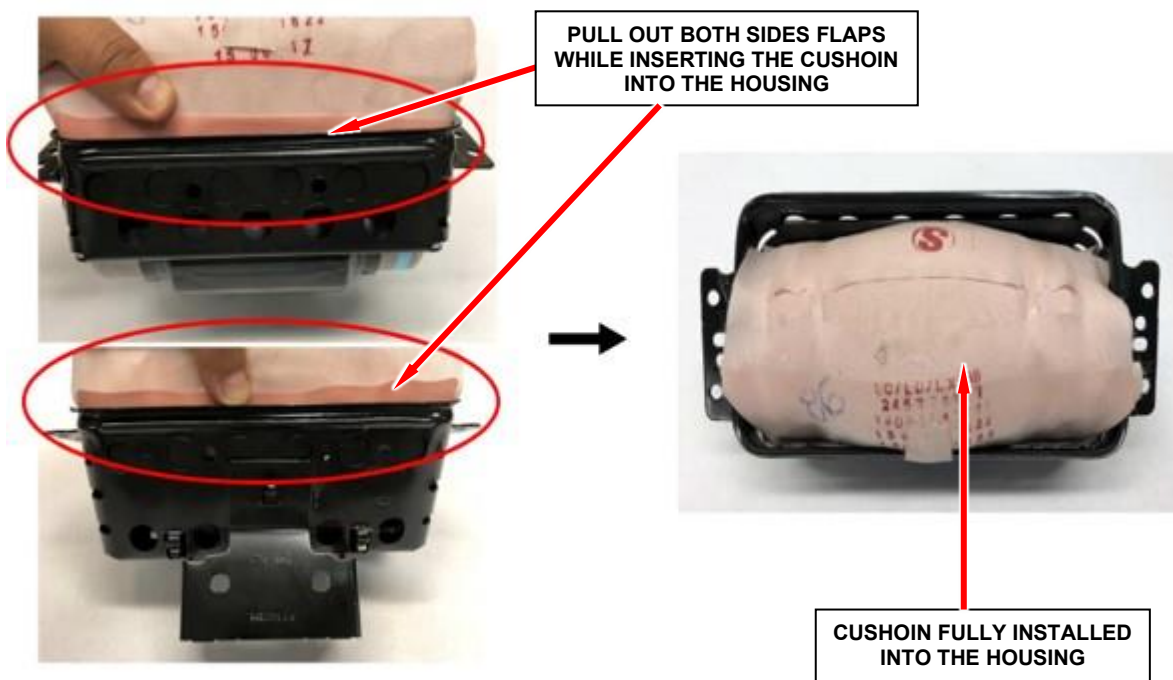

Figure 19 – Side Flaps Must Be Held Out
NOTE: The inflator's key **MUST** line up with the housing's key (Figure 19).
- i. Insert the cushion, pulling out both side flaps (Figure 19).